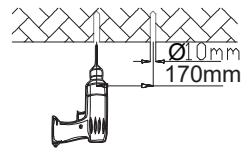

Figure 1-1
1. Make marks on the walls, and then drill holes on the marks(Figure 1-1).